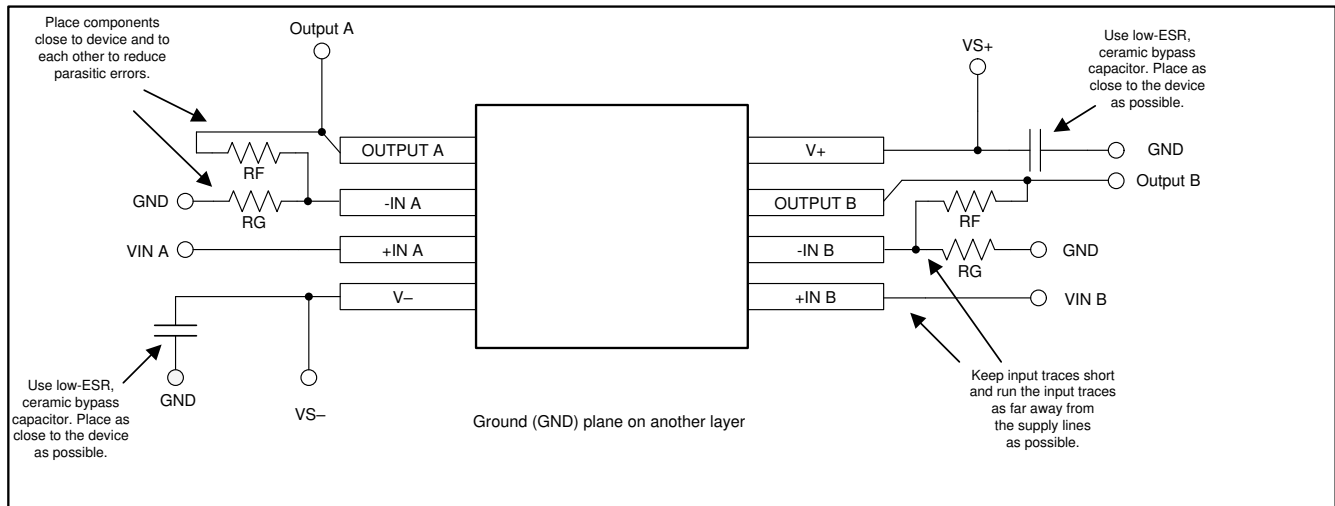

Figure 10-1. Operational Amplifier Board Layout for Noninverting Configuration
- Place the external components as close to the device as possible. As shown in Figure 10-1, keeping R_F and R_G close to the inverting input minimizes parasitic capacitance.